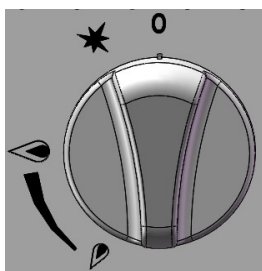

Fig. 2
- ①Align the control valve knob on the "0" position (Fig. 2), so that the valve is closed.